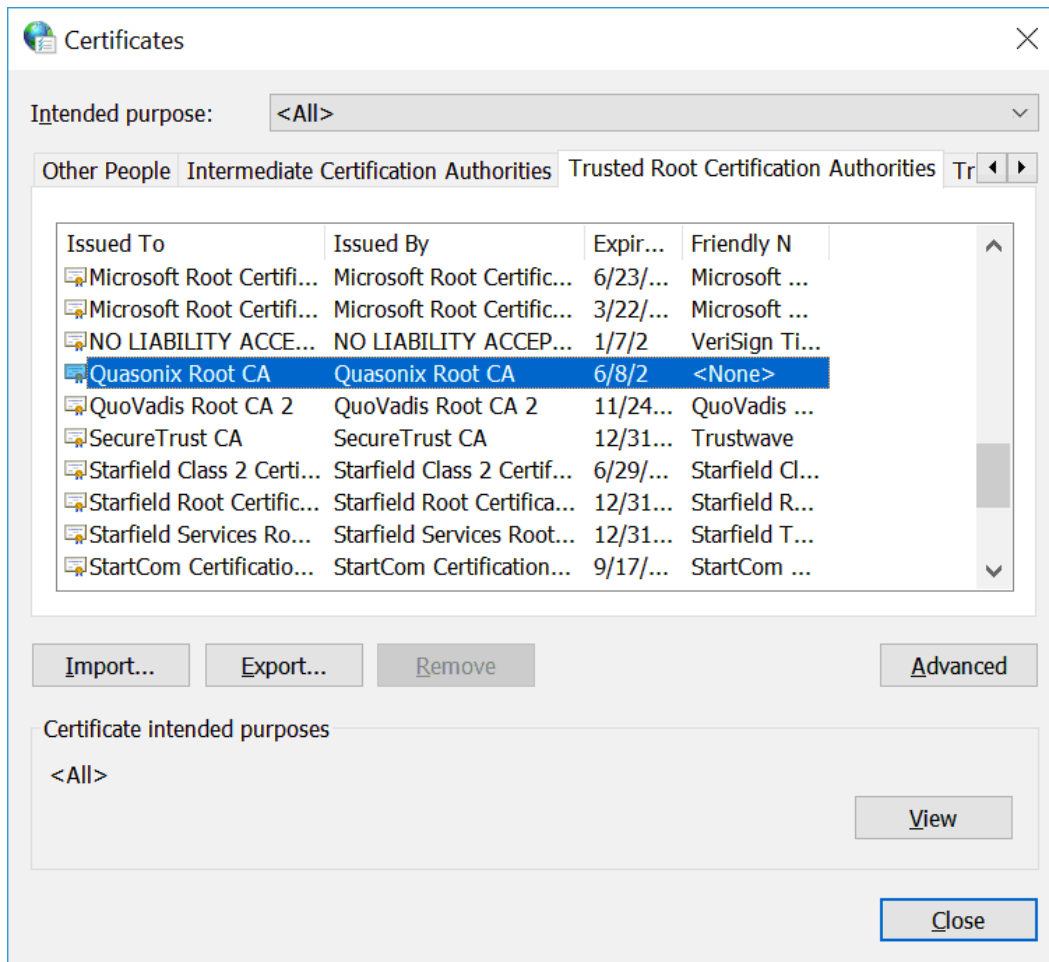

Figure 335: Certificates, Quasonix Certificate Imported
10. View the list of Certificates under Trusted Root Certification Authorities, and verify that Quasonix Root CA is listed, as shown in Figure 335.